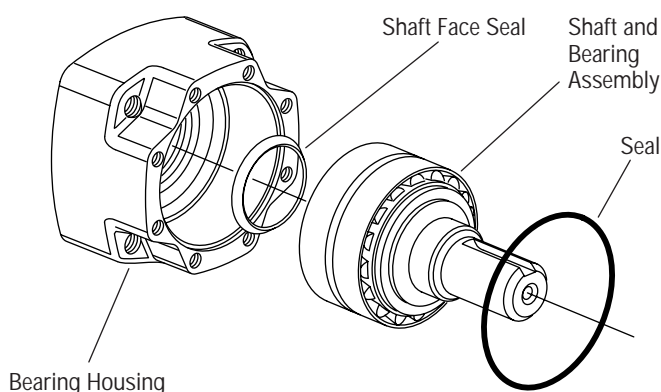

Figure 10
**18** Remove shaft and bearing assembly. You may need a press to remove shaft and bearing assembly (see Figure 10).
**19** Remove shaft face seal from bore of bearing housing (see Figure 10). Do not damage bore of bearing housing.